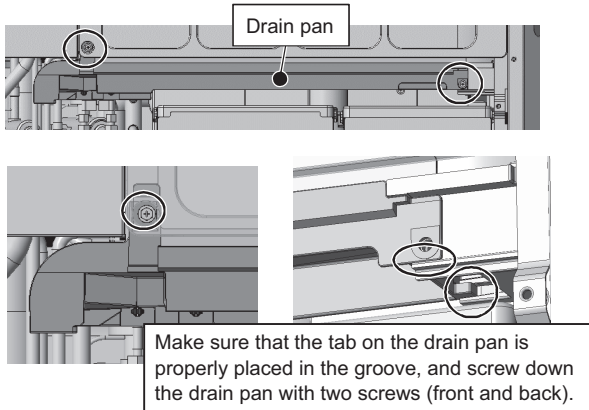

Figure 7
- (1) Screw down the drain pan with two screws. (See Figure 7.)